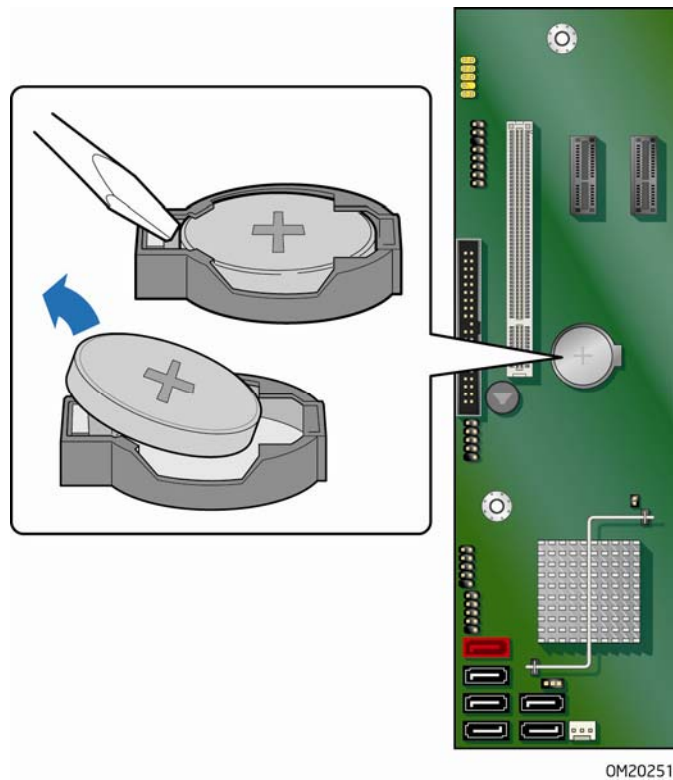

Figure 28. Removing the Battery
When the voltage drops below a certain level, the BIOS Setup program settings stored in CMOS RAM (for example, the date and time) might not be accurate. Replace the battery with an equivalent one. Figure 28 on page 66 shows the location of the battery.
4. Locate the battery on the board (see Figure 28).